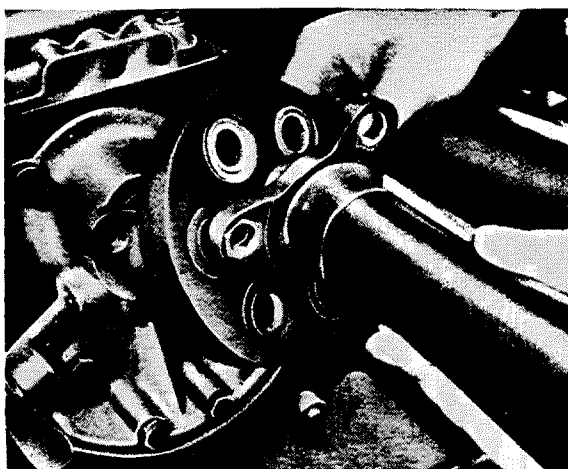

Fig. G 1/4
4. Separate propeller shaft from transmission, disconnect central lubricating hose at intermediate bearing of propeller shaft and loosen intermediate bearing; push propeller shaft back and take shaft plate out (Fig. G 1/4).